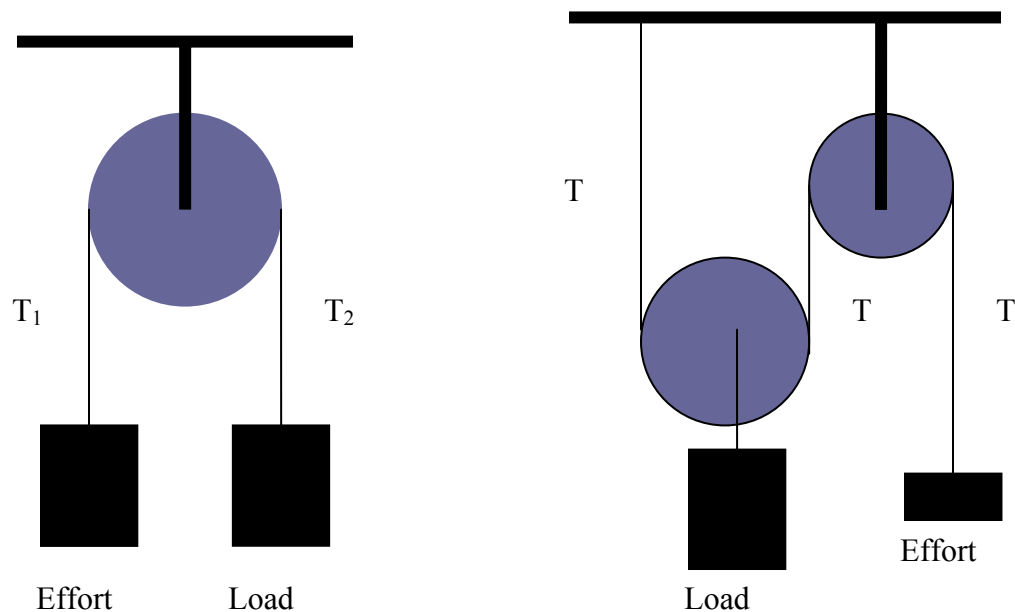

Figure 1 – (a) Fixed and (b) Moving Pulley
Pulleys are said to be continuous levers. Figure 1 depicts a fixed (a) and a moving (b) pulley.
On the other hand, for the moving pulley of figure 1 (b):
2. Set-up two single pulleys as shown in figure 1(b).